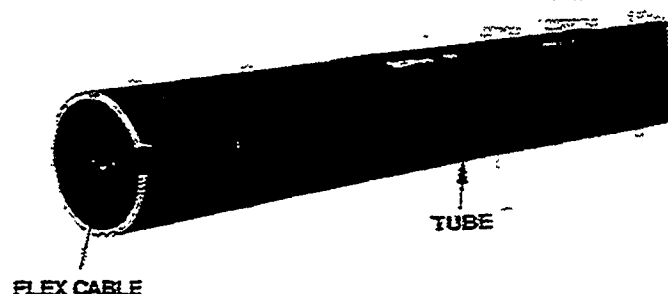

Figure 42
- **NOTE:** After assembly, the flex cable should not stick out beyond the slotted tube end. If it does, push the cable in as far as it will go (Fig. 42).